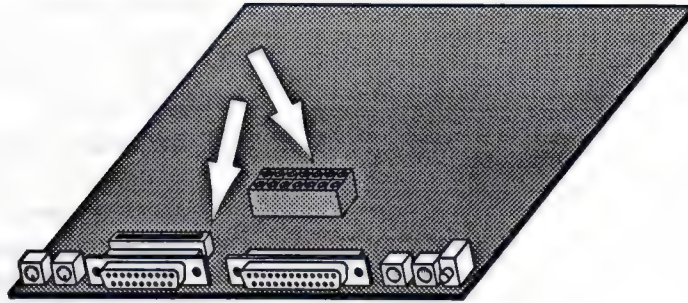

Figure 19: Motherboard connectors for Mac SE
2. Attach the alligator clip of the CRT discharge tool to the metal part of the ground lug exactly as shown in Figure 19. *Do not clip onto the chassis.*